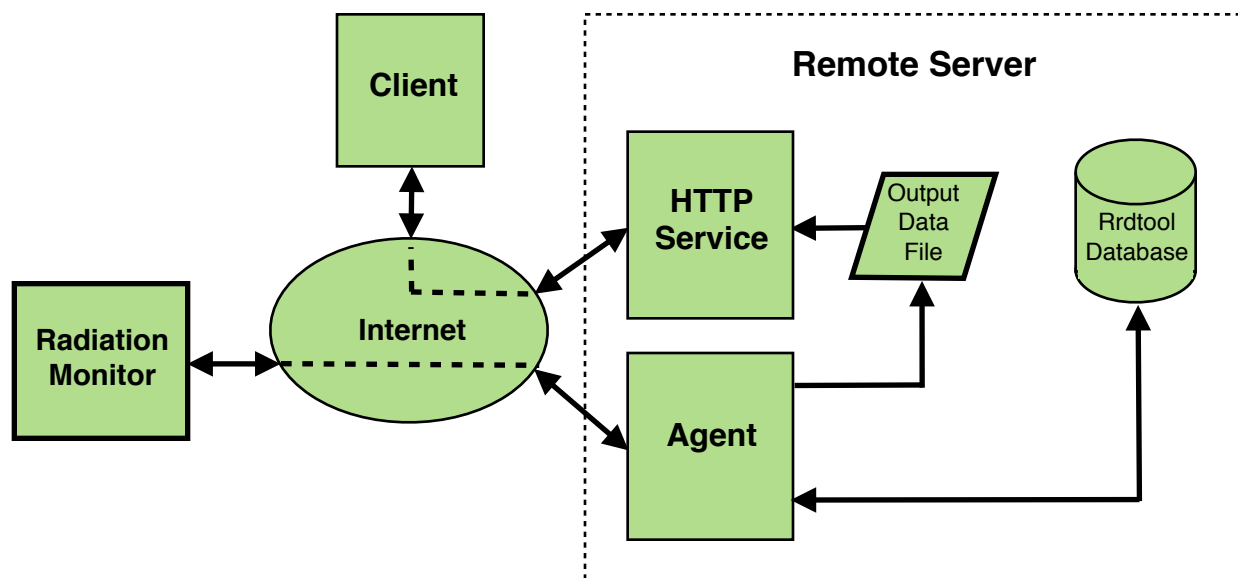

Figure 4. Block diagram of remote server software components showing data i/o, agent process, HTTP service, and database elements.
Referring to figure 4, the remote server components consist essentially of two pieces: an HTTP server component and an agent component. The HTTP server component includes the HTML document, with embedded Java Script, for displaying the radiation monitor data in a web browser. The agent, a Python script, manages data conversion and re-formatting, updating a database, and generating graphical charts.
The agent parses this string, writes the data to a rrdtool database, and, after formatting the weather data, the agent writes the data to the "Output Data File" for use by HTML documents. When a client requests a radiation monitor HTML document, Java Script embedded in the document reads the Output Data File and displays this data in an HTML document. Although not shown in figure 4, the agent, as mentioned earlier,
3. The output data file (see figure 4) gets overwritten every 10 seconds and should not be stored on disk. Rather it is dynamic content that should be stored in the temporary file system resident in ram. Similarly the graphic image files get overwritten frequently and should also be stored in the temporary file system. Assure that the server /tmp folder gets mounted to the temporary file system. This can be done by adding the following line to the /etc/fstab file